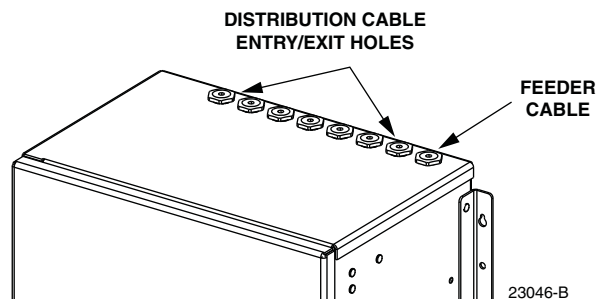

Figure 11. Cable Entry/Exit Holes
1. Locate the cable entry/exit hole (on top of the cabinet) that is specified for feeder cable installation as shown in Figure 11.